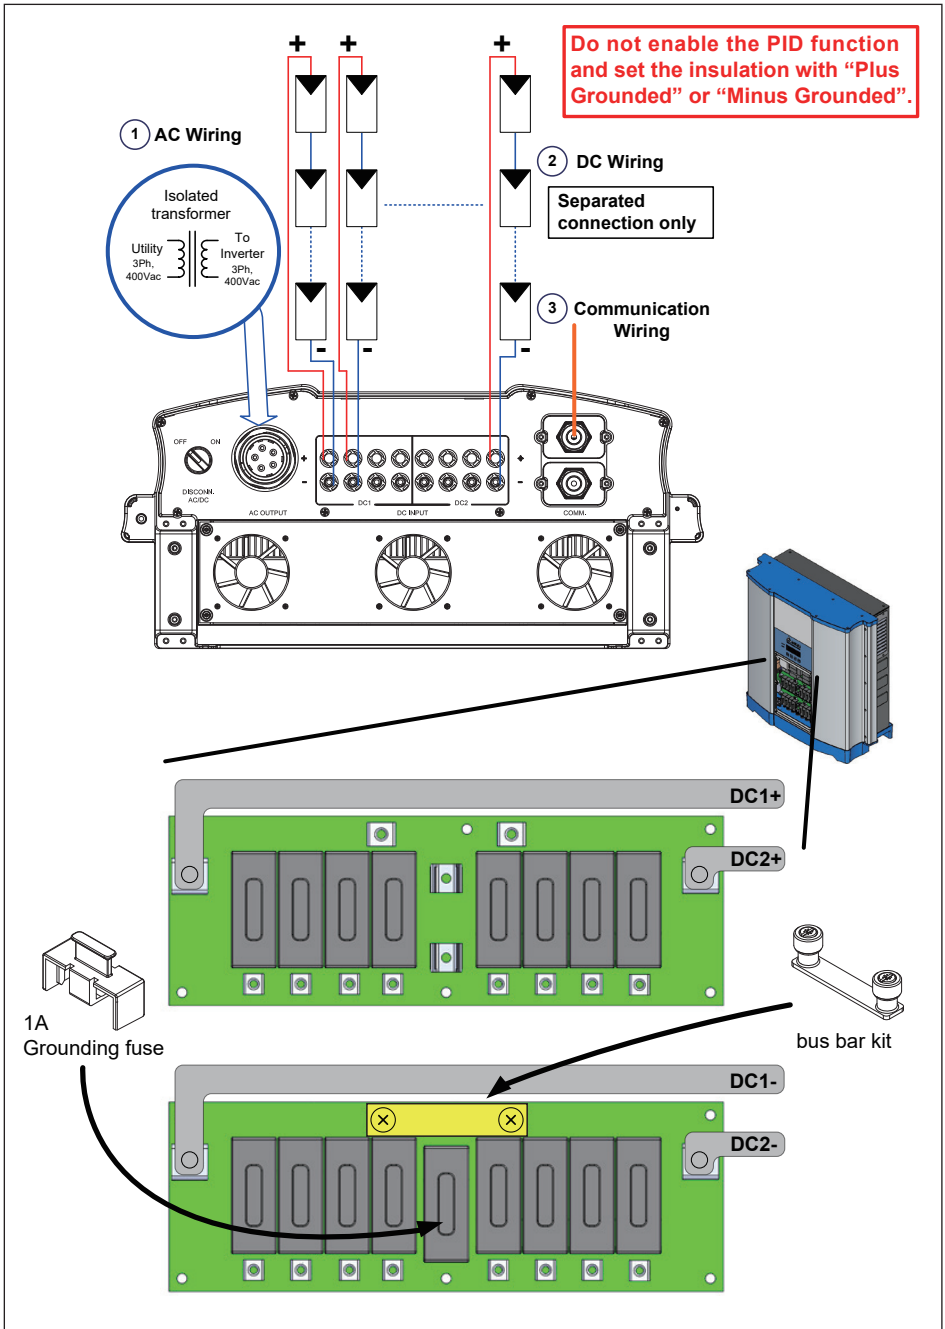
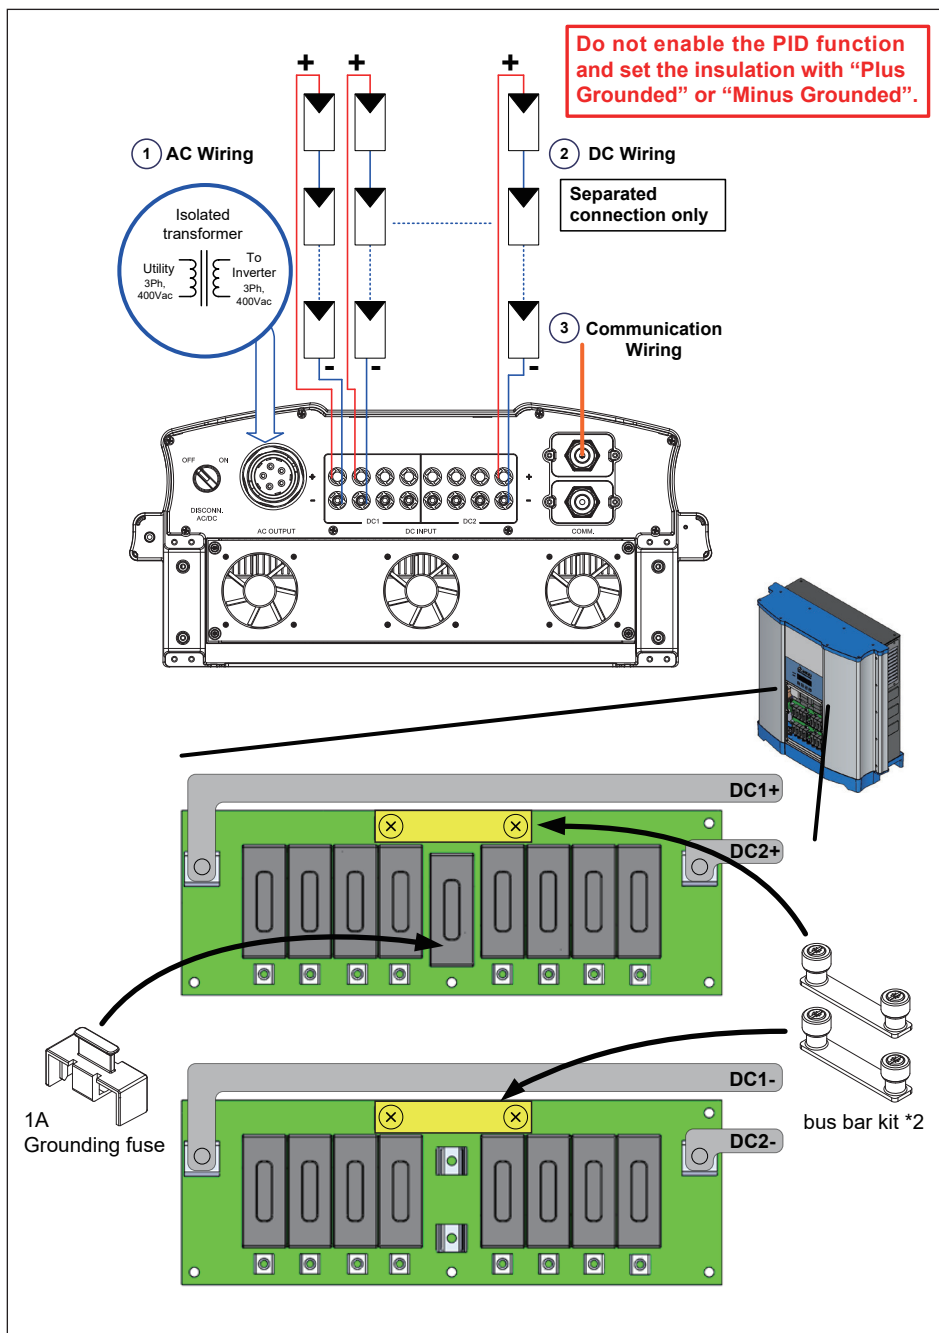

Figure 4-3 : Minus grounding of M30A_120 with fuse
Figure 4-4 : Plus grounding of M30A_120 with fuse
- When grounding the solar array, an isolation transformer is required because the RPI series does not have galvanic isolation between the DC-input and AC-output. In addition, Users must install a 1000V/1A midsize grounding fuse and 1 or 2 bus bar kits in the inverter. Wiring illustrations please refer to **Figure 4-3**, **Figure 4-4**.